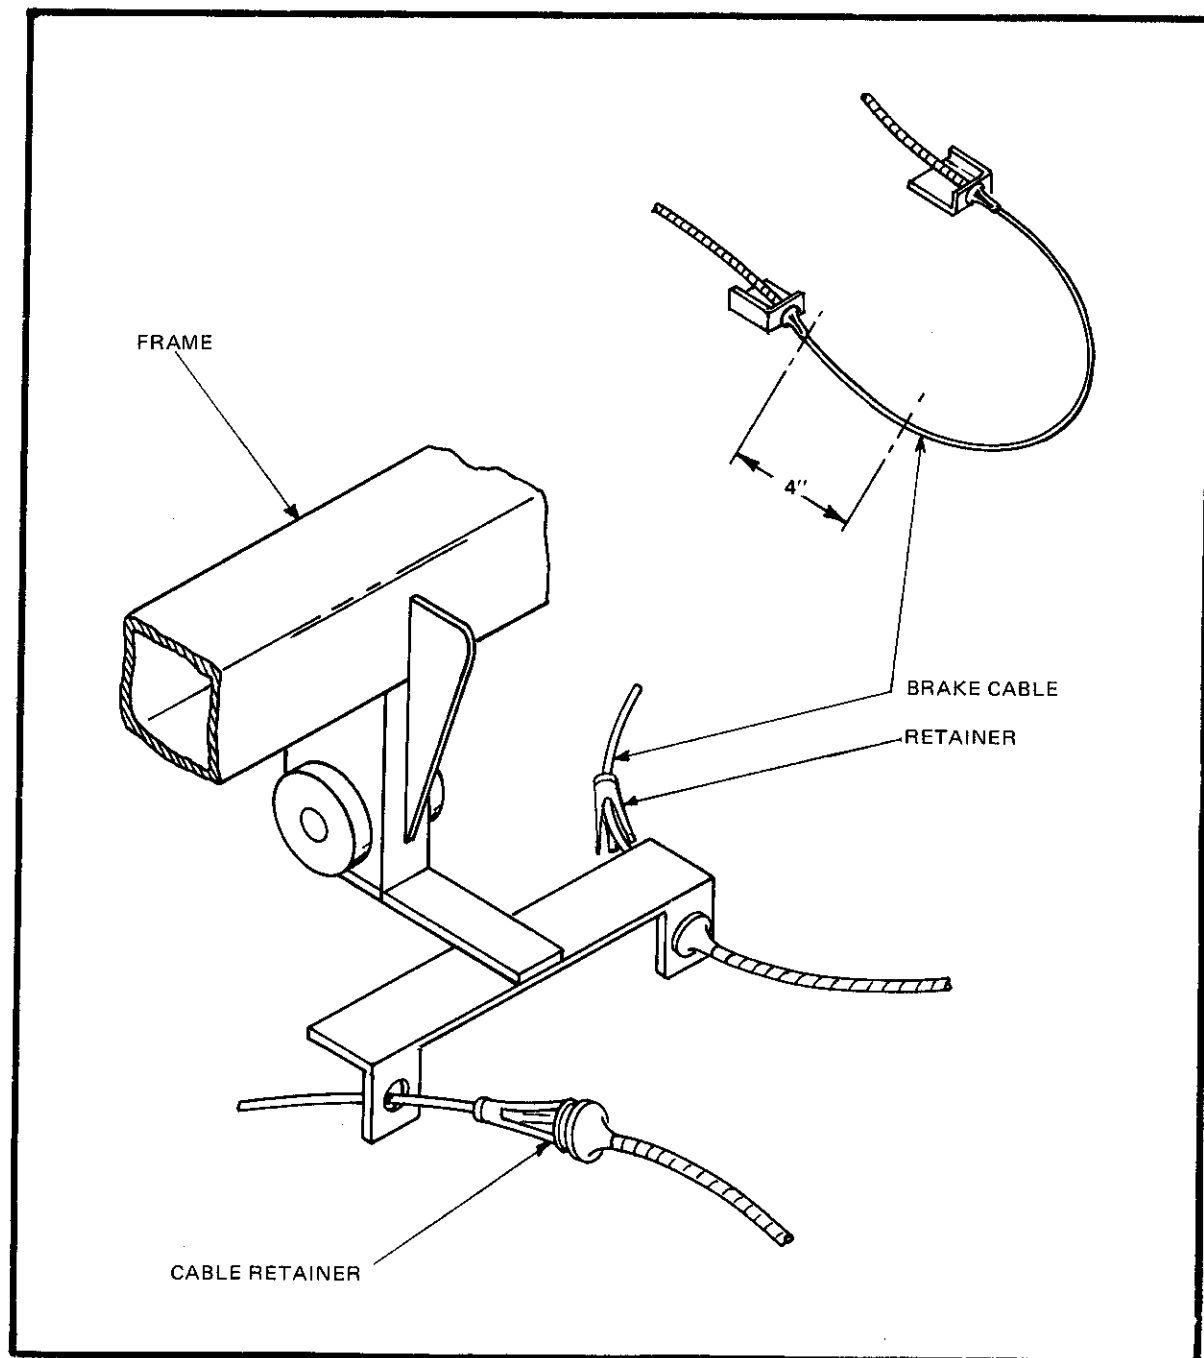

Figure 25
- Remove cable retainers from housing. Measure 4" from the housing on one side. Cut cable and insert housings into hanger bracket on frame. Reinstall retainers. The cable will be joined later when the handle is installed. (Figure 25)